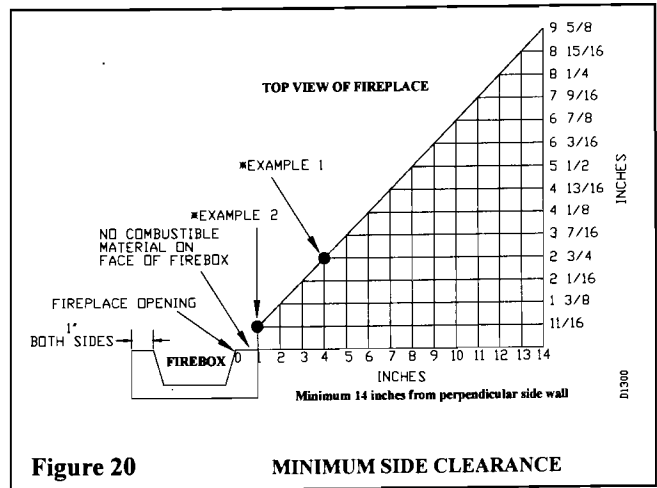

Figure 20
Mantels or any other combustible materials such as wallboard, sheet rock, drywall, plywood, etc. butt up to the side of the black metal face of the fireplace. The clearances from the side of the fireplace to any combustible material and wall should fall within the limits shown in figure 20.
*Example 1 (figure 20): The face of a mantel, bookshelf, etc. is made of combustible materials and protrudes 2-3/4" from the wall the fireplace is installed in. This combustible material must be a minimum of 4" from the side of the fireplace opening.
*Example 2 (figure 20): The face of a mantel, bookshelf, etc. is made of combustible materials and protrudes 11/16" from the wall the fireplace is installed in. This combustible material can butt up against the side of the fireplace (i.e. 1" from the fireplace opening).